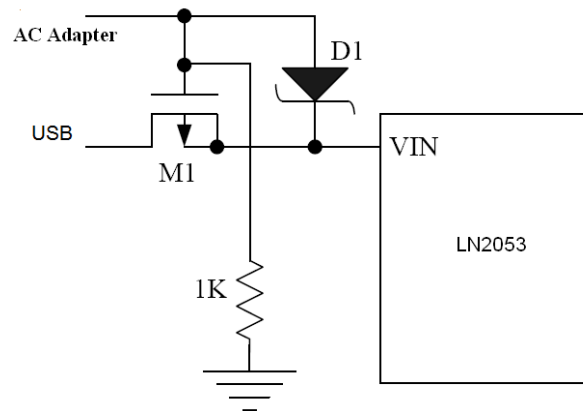

Figure3. While using the AC adapter and USB interfaces
If connect a resistor between the LN2053 battery voltage Kelvin test input pin (FB) and the positive battery , it can increase the battery charging voltage, as shown in Figure 3, then the positive battery voltage Vbat is:
LN2053 can not only use USB interface to charge the battery, users can also use a wall adapter to charge the battery. Figure 3 shows the same time using the USB interface and the AC adapter to charge the battery through the LN2053 .when the two co-exist, the AC adapter has priority. M1 is the P-channel MOSFET, M1 is used to prevent current from a wall adapter into the USB interface, USB interface, Schottky diode D1 prevents the consumption of energy through the 1K resistor.